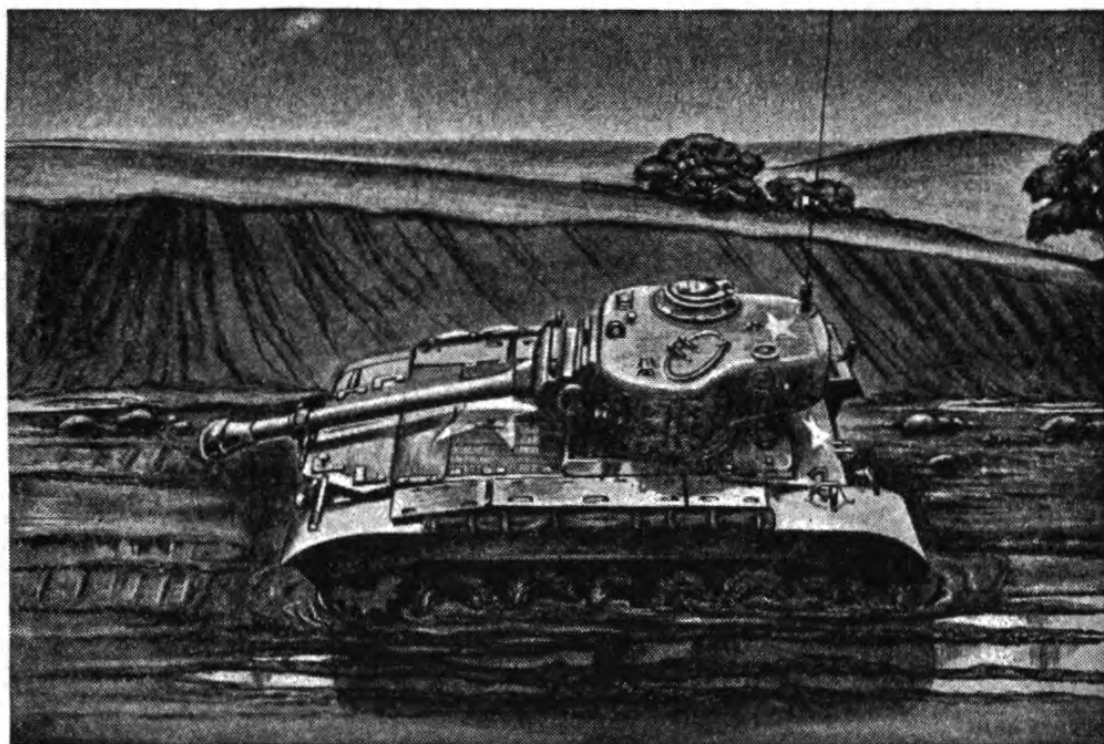

Figure 36. When in mud and only one track spins, move the vehicle by holding back on the steering lever on the same side as the spinning track.
34. ONE TRACK SPINNING. To move a full-track vehicle which has one track on solid ground and the other spinning in the mud, pull back on the steering lever on the same side as the spinning track. This throws power to the track on solid ground and your vehicle moves out. (See fig. 36.)